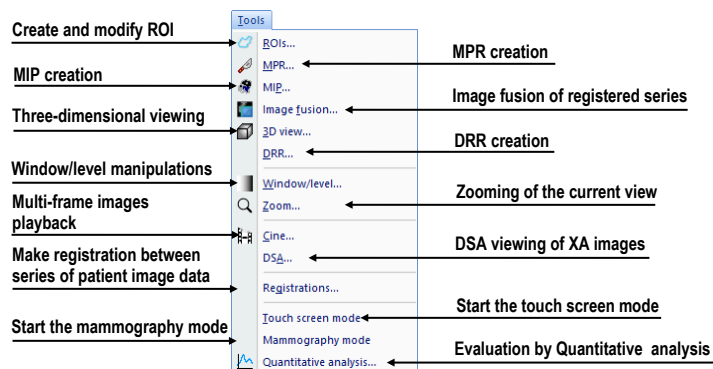

Figure 41 – Tools menu
- **Tools** – tools for image data handling such as windowing/zooming, 3D viewing, reconstructed viewing (MPR, MIP, DRR), subtraction (DSA), creating regions of interests and registrations, defining multi-modal registrations and launching the touch screen and mammography modes (see Figure 41).